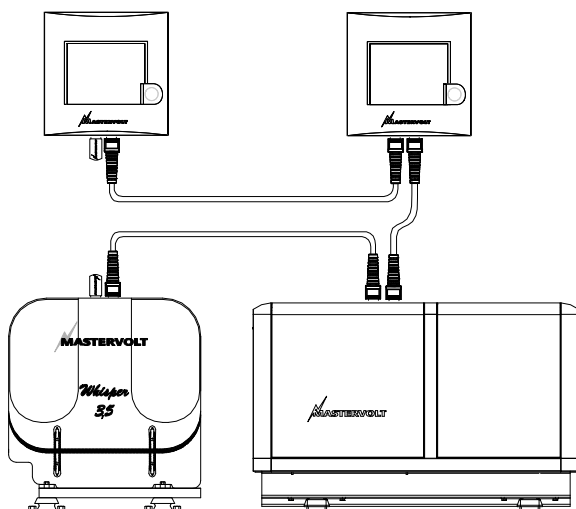

Figure 33:
- By setting up one MasterBus network with two MasterView Easy panels. See figure 33. Here each MasterView Easy panel should be configured as dedicated panel for its corresponding generator set. To do so, see section 11.3.2.